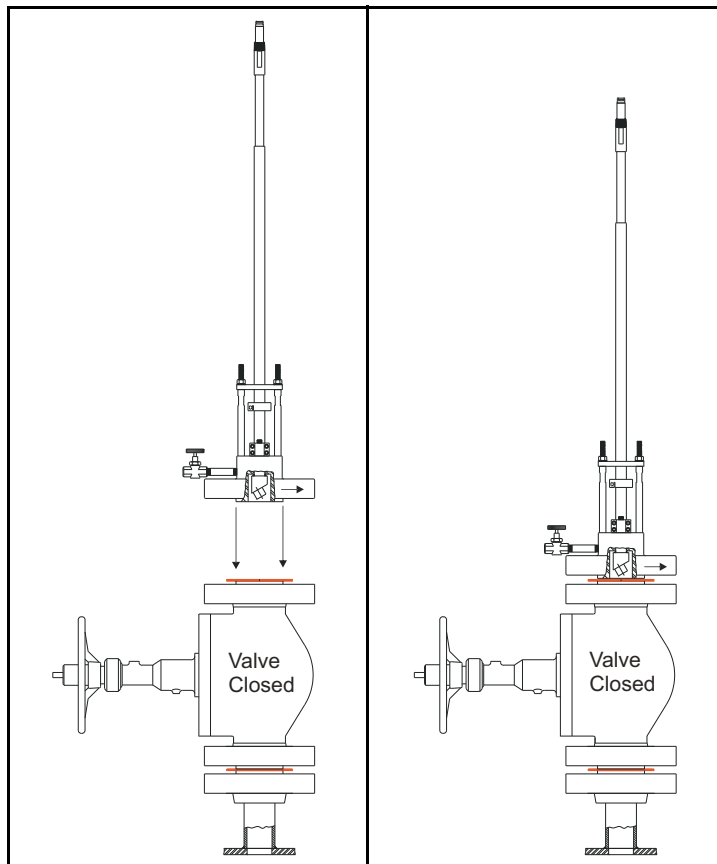

Figure 16: Bolting the LPA Mechanism to the Ball Valve
6. Bolt the LPA mechanism to the 2 in. flanged ball valve, as shown in *Figure 16* below.